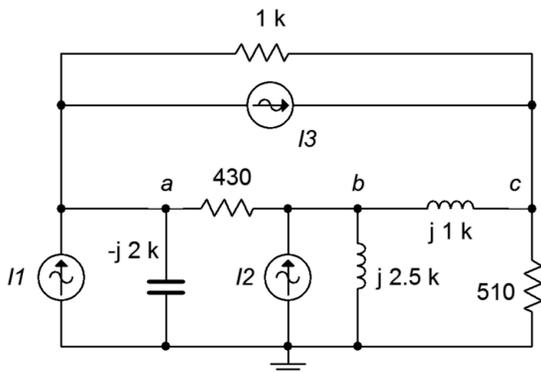

Figure 6.21
41. Given the circuit in Figure 6.21, use nodal analysis to determine  $v_c$ .  $I_1 = 3E-3\angle 0^\circ$ ,  $I_2 = 10E-3\angle 0^\circ$ ,  $I_3 = 2E-3\angle 0^\circ$ .
42. Use nodal analysis to find the current through the  $-j2\text{ k}\Omega$  capacitor in the circuit of Figure 6.21.